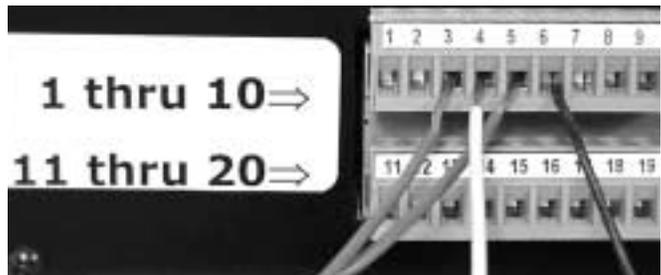

Figure 15. Pushbutton Connection
2. Connect wires from pushbutton to power supply source (5-30 volts) and terminal #6 (extend/retract). See Figure 15.